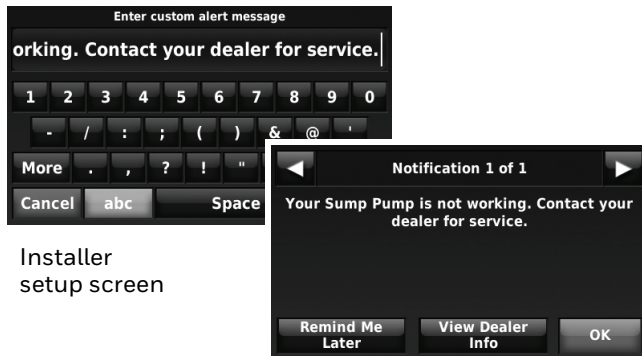

Fig. 191.
6. If you are creating a custom alert, type the alert name into the text box and press Done. The alert name is what appears on the Home screen when the alert is detected. See Fig. 191. You can edit or confirm the alert name after you enter it.